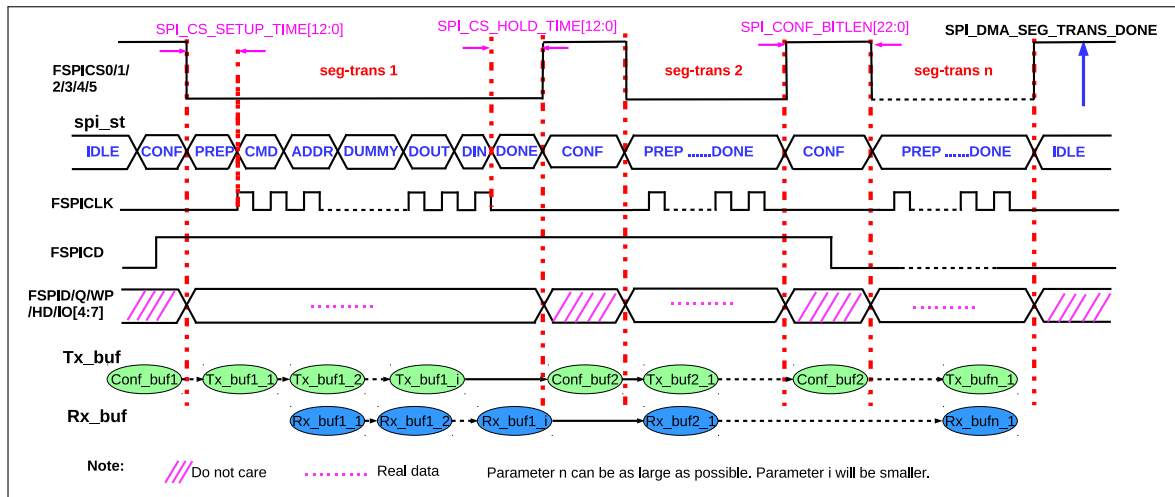
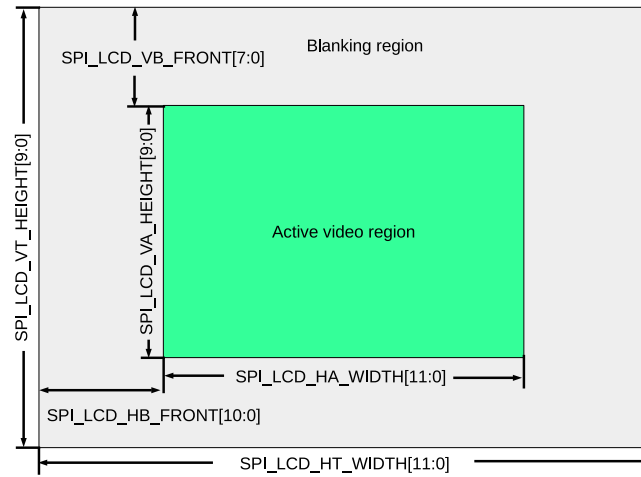
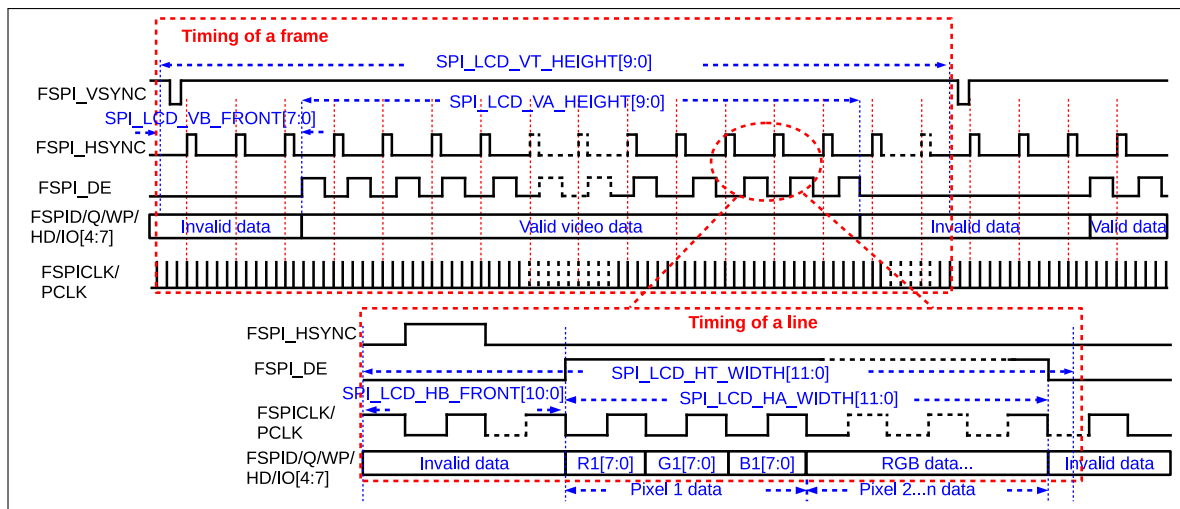

Figure 24-9. Segmented-Configure-Transfer in DMA Controlled Master Mode
Figure 24-10. Video Frame Structure in Parallel RGB 8-bit LCD Mode
Figure 24-11. Timing Sequence in Parallel RGB 8-bit LCD Mode
An SPI transfer, controlled by the registers of GP-SPI2, needs to be configured and triggered by the CPU. To reduce CPU cost and to increase the efficiency of GP-SPI2, DMA segmented-configure-transfer function is provided in DMA-controlled master mode. (Note that CPU-controlled master mode does not support segmented-configure-transfer function.) Segmented-configure-transfer enables GP-SPI2 to do as many times of transfer as configured, with only one triggering by CPU. Figure 24-9 shows how the segmented-configure-transfer function works in DMA-controlled master mode.
As shown in Figure 24-9, GP-SPI2 registers can be reconfigured by GP-SPI2 hardware according to the content in a `Conf_bufi` during `CONF` state, before one single segmented-configure-transfer, `SCTi`, begins.
For example, as shown in Figure 24-9, `SCTi` can be configured to DMA-controlled full-duplex communication; `SCTj` can be configured to DMA-controlled half-duplex MISO mode; and `SCTk` can be configured to
Figure 24-10 shows the video frame structure of a parallel 8-bit RGB mode LCD.
It can be seen from Figure 24-9, Figure 24-10, and Figure 24-11 that a good way for GP-SPI2 to output parallel 8-bit RGB frame data is as follows:
- Data is output in each frame line in a segmented-configure-transfer. One valid video line is transferred in each single transfer (i.e. SCT_i in Figure 24-9) of segmented-configure-transfer. There are SPI_LCD_VA_HEIGHT[9:0] active video region lines in a frame, so that a frame data is sent in SPI_LCD_VA_HEIGHT[9:0] times of SCT_i.
GP-SPI2 can output the frame data automatically as shown in Figure 24-10 and Figure 24-11, which significantly lowers the CPU time required to control the SPI transfer. The configuration flow is as follows:
2. Configure frame control registers, as shown in Figure 24-10 and Figure 24-11, in accordance with the